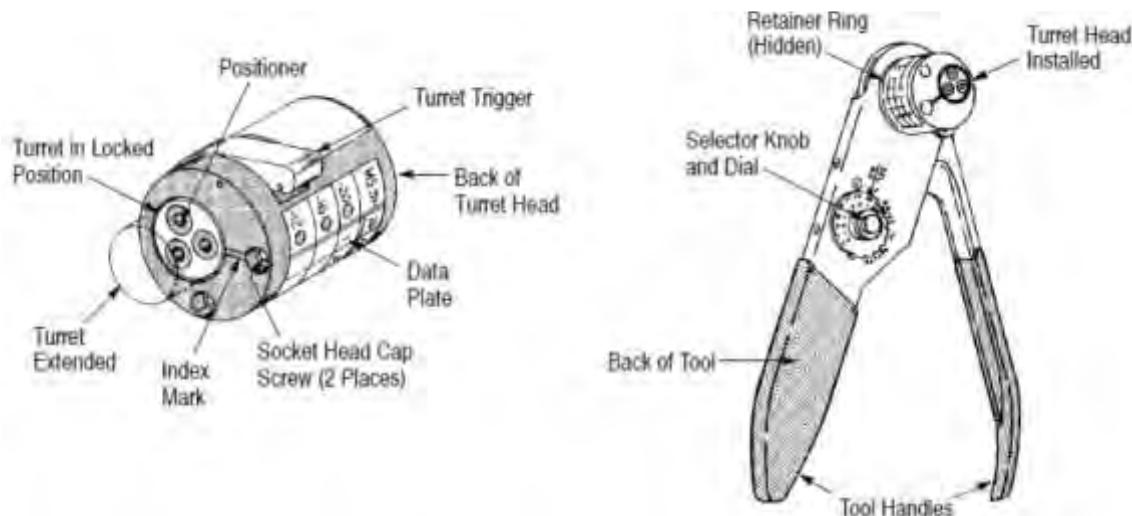

Figure 9
- (13) Select contact locator positioner from Tooling table in beginning of this section and install to crimp tool as follows:
- a. M22520/1-01 (Figure 9)
- (1) Depress the turret trigger to release the turret from the index position (the turret should be extended).
- (2) Place the back of the turret head over the retainer ring on the back of the tool. Make sure that the turret head is seated, then tighten the two socket head cap screws of the turret head.
- (3) Rotate the turret until the positioner marked with the desired contact size is aligned with the index mark.
- (4) Press the turret until it is in the locked position.